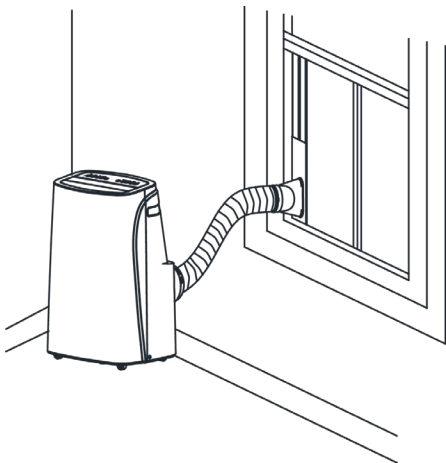
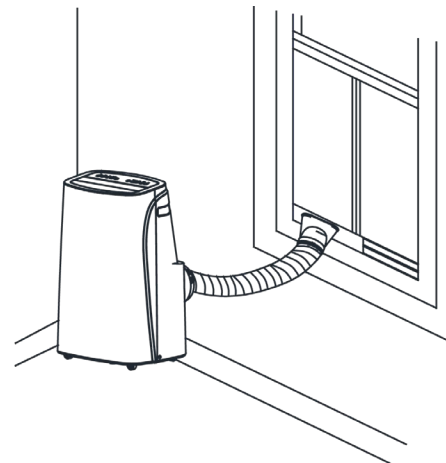

Figure 5
Figure 6
2. Elongate the exhaust pipe and snap the flat end of the exhaust pipe joints into the hole of the window sealing plate assembly (as shown in Figure 5 and Figure 6).